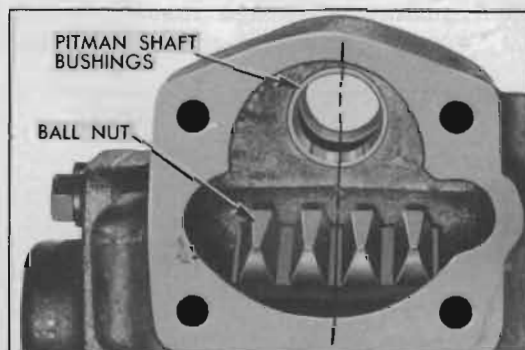

Figure 7-32—Position of Ball Nut for Installation of Pitman Shaft
12. Place gear assembly on left side, turn steering shaft until ball nut teeth are centered on pitman shaft bushings, and tilt nut slightly toward side cover opening. See figure 7-32. Hold pitman shaft with the gear sectors straight down as it is installed in gear housing; use care to avoid damaging pitman shaft seal in gear housing as shaft is pushed through it. Install side cover and tighten bolts securely.